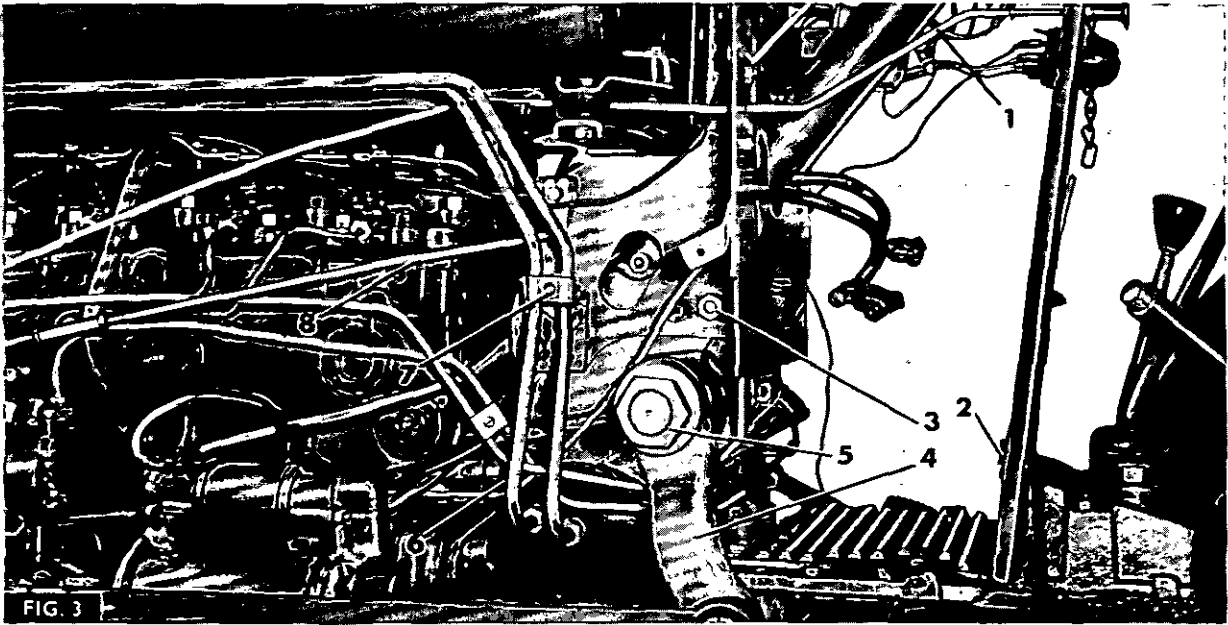
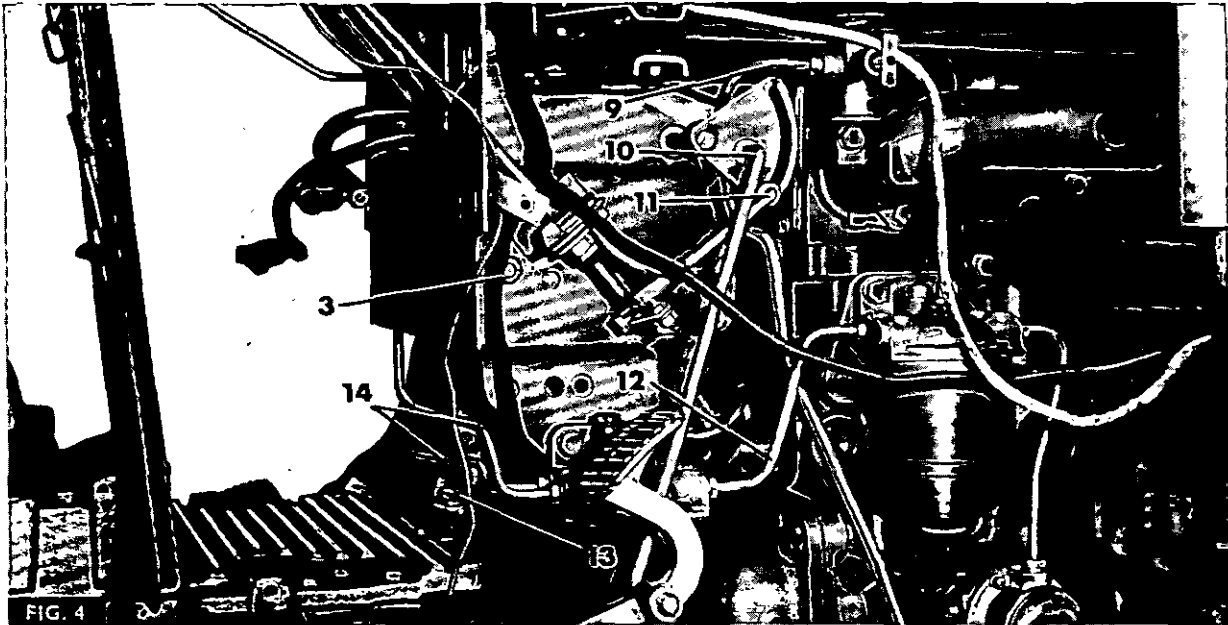

FIG. 3
FIG. 4
10. Fig. 3. Remove the fuel cut-off rod (1), disconnecting it at the fuel injection pump and sliding it out rearwards.
11. Fig. 4. Turn the fuel tap to OFF and disconnect the fuel pipe (9).
12. Remove the secondary fuel filter and the pipe (12) connecting it to the primary filter.
13. Remove the fuel feed and low pressure return pipes (14) (fuel injection pump to secondary fuel filter).
15. Fig. 3. Remove the Multi-Power pipe support bracket (7) (just forward of the steering box filler plug, if fitted).
16. Disconnect the throttle to fuel injection pump rod (8) at the crank on the rear end of the rod.
17. Fig. 4. Disconnect the hand and foot throttle rods (10 and 11) at the quadrant, by releasing the clip and split pin respectively.
22. Figs 3 and 4. Remove the bolts (3) securing the bulkhead to the steering box.
23. Fig. 3. Remove the bolts (2) securing the instrument panel to the top of the gearbox.
25. Fig. 3. Remove the nut (1 7/8 A/F) (5) and spring washer securing the drop arm (4) to the steering box.
27. Figs 3 and 4. Remove the two bolts (6) securing the front of the steering box and two bolts (13) securing the rear of the box to the transmission housing. Remove the steering box.
1. Locate the steering box on top of the transmission case, then refit the four bolts (6 and 13) and spring washers. Torque the front bolts (6) to 7,0 kg-m (50 lb-ft) THEN the rear bolts (13) to the same torque.
2. Fig. 3. Aligning the master spline of the drop arm (4) and the steering shaft, refit the drop arm, spring washer and nut (1 7/8 A/F) (5) tightening the nut to 24,2 kg-m (175 lb-ft).
3. Manoeuvre the instrument panel/bulkhead over the steering column, then refit the bolts (2) securing the instrument panel to the gearbox top.
4. Refit the bolts (3) to secure the bulkhead to the steering box.
9. Reconnect the fuel injection pump throttle rod (8), to the crank at the rear end of the rod.
10. Refit the Multi-Power pipe support bracket (7) (if fitted).
11. Refit the secondary fuel filter and pipe (12) from the primary to secondary fuel filter.
12. Refit the fuel feed and low pressure return pipes (14) from the injection pump to secondary fuel filter.